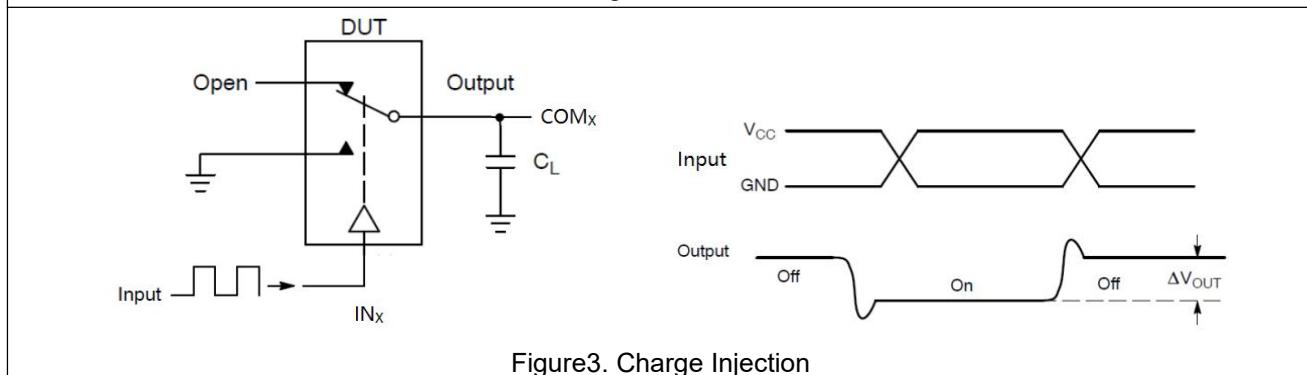

Figure3. Charge Injection
| Q         | Charge Injection SelectInput to Common I/O (2)(Figure 3)     | $V_{IN} = 0$ or $V_{CC}$$R_{IS}=0\Omega$ , $C_L=100pF$$R_L=1M\Omega$$Q=C_L \times \Delta V_{OUT}$ |                  | 25   |     |                         |     | pC   |